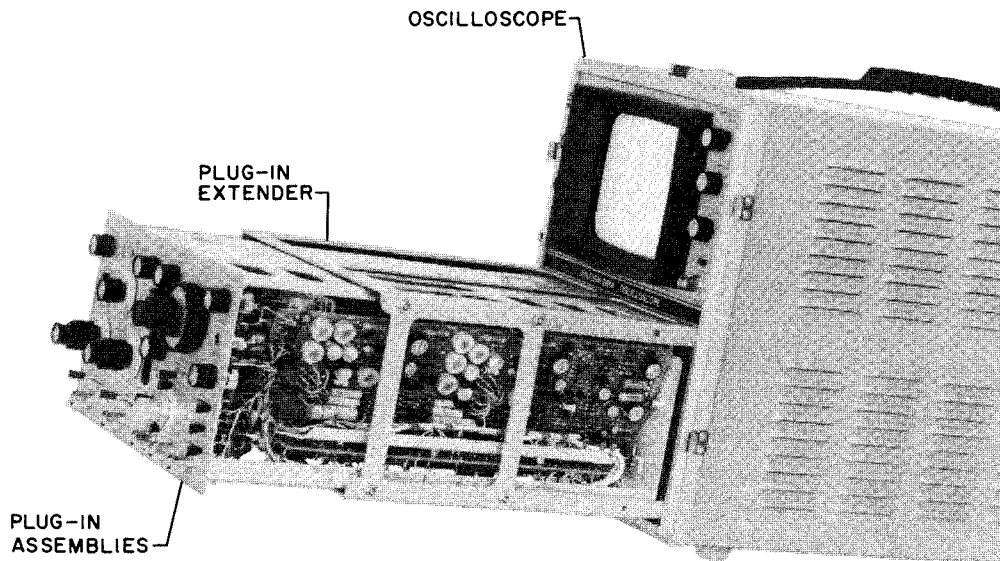

Figure 5-5. Plug-In Extender Installation
- (3) Using latch handle, pull plug-in assemblies from oscilloscope assembly.
- (4) Insert plug-in extender into oscilloscope assembly and mate with internal connector. See figure 5-5.
- (5) Insert plug-in units into plug-in extender.